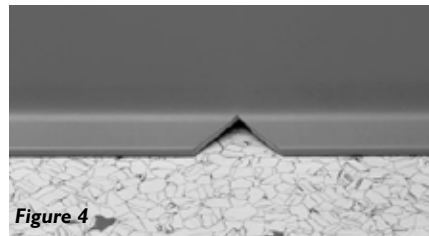

Figure 4
3. Cut a small 90° triangular wedge (45° off center) to remove toe of cove base at line (Figure 4).